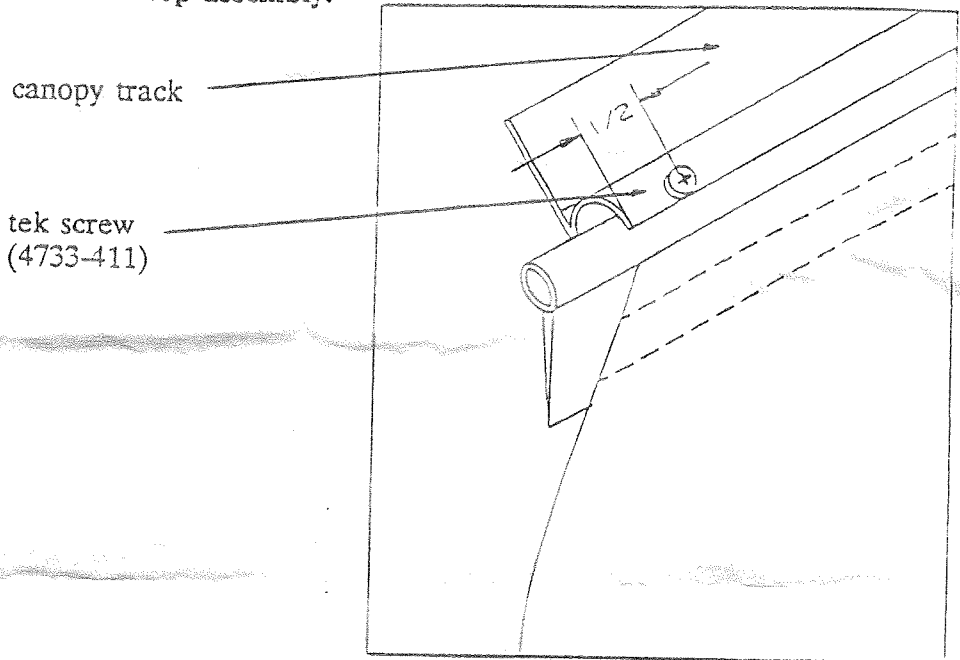

FIGURE 2
4. Locate the two 4733-411 tek screws supplied. Using an air or electric driver, install one self-tapping tek screw through each end of the canopy track 1/2" back from each end of the track. See Figure 2. Tek screws can be inserted from either the top or bottom side of the canopy track. Tek screws must penetrate through the rubber seal sewn onto the canopy bag. This will retain the canopy in the track during transit.